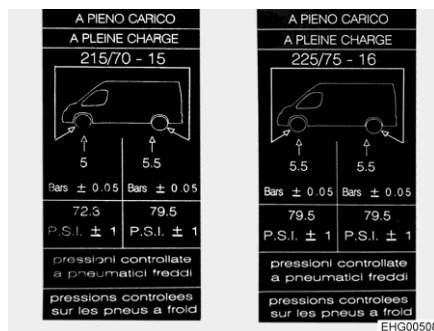

Fig. 164 Tyre pressure information sticker on B column (example)
- ▷ Information stickers with the required tyre pressure are attached to the inside of the B column (see Fig. 164).